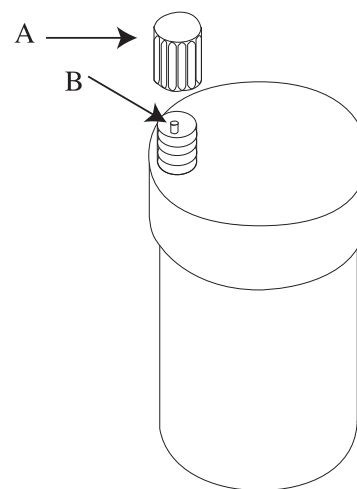

Figure 6.1: Automatic Air Vent
3. Allow air to escape from outer (boiler water) tank by opening vent cap A on automatic air vent, located on top of water heater. See Figure 6.1.
5. When tank is full, air will stop escaping, and the automatic air vent will close. If air vent does not seat properly (water leaks out), remove cap A. Briefly push in valve B and release it to clean valve seat. Screw cap A on completely, then unscrew one turn. See Figure 6.1.